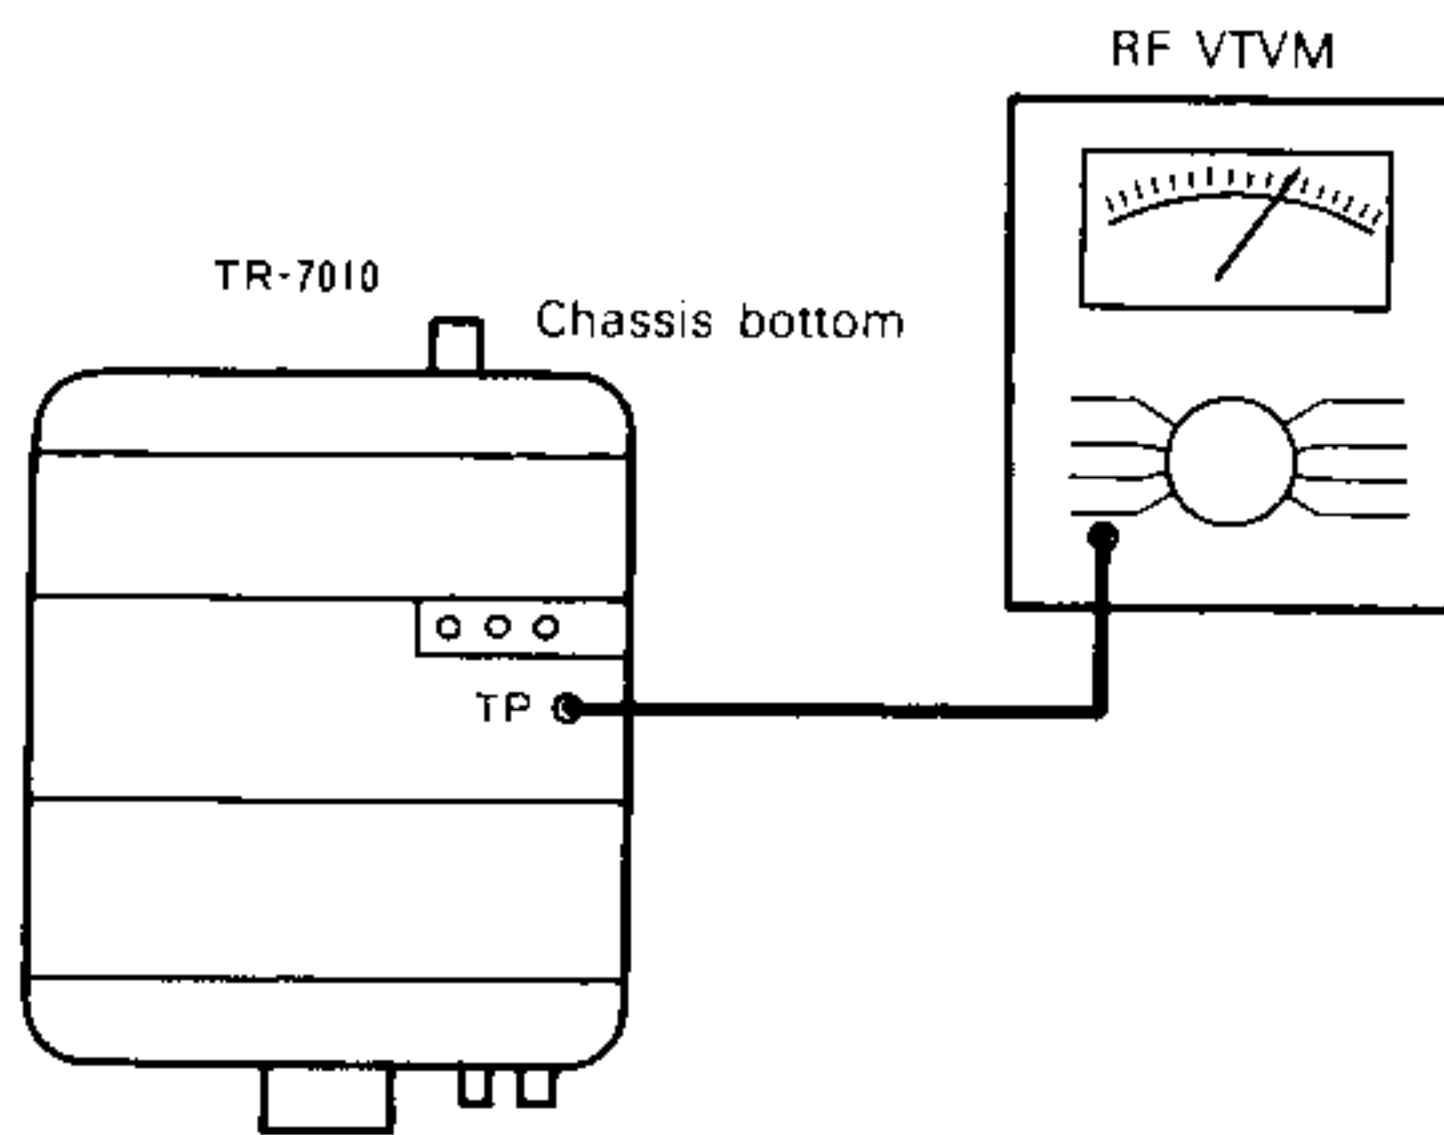
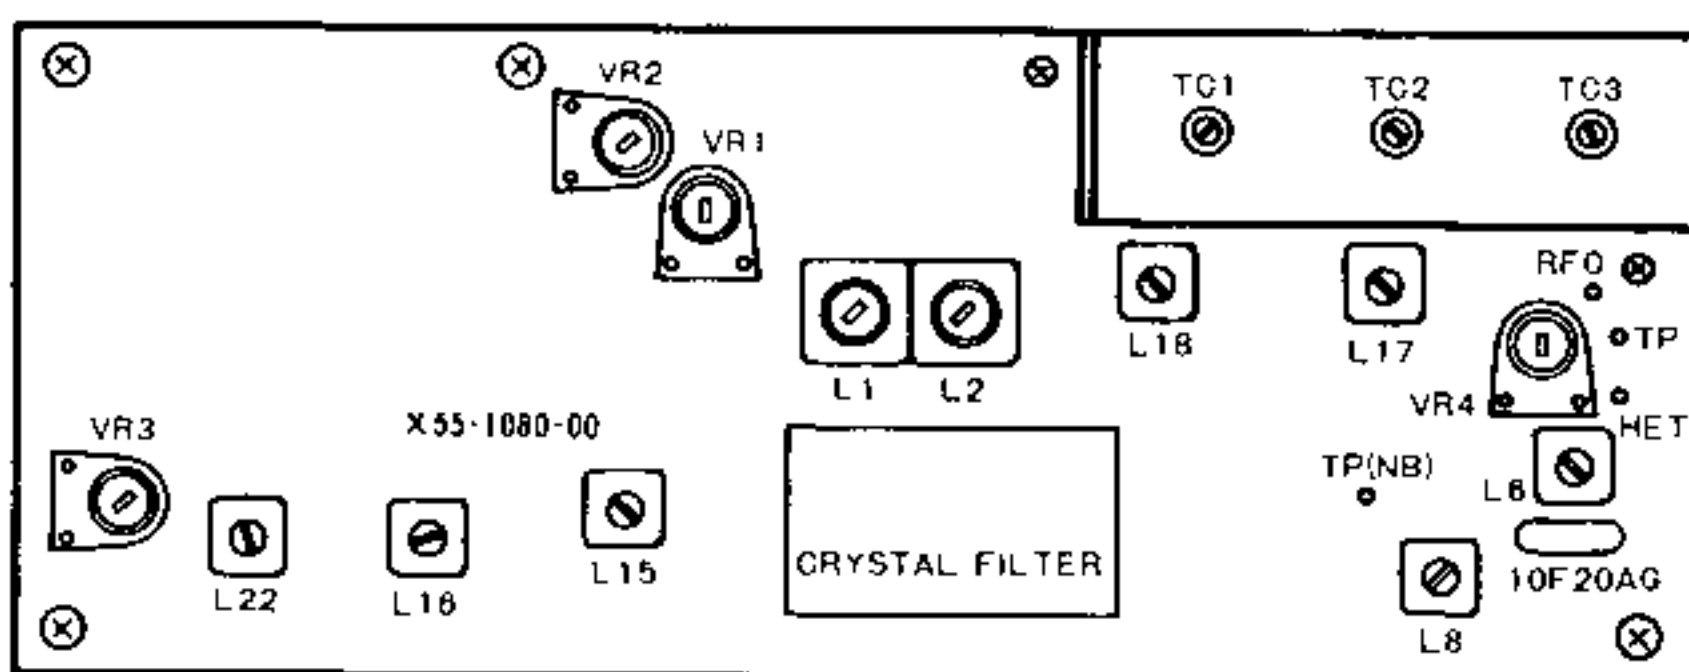

FIG. 14 RX, HET VOLTAGE SETTING
FIG. 15 RX UNIT
- (1) Disconnect all the measuring instruments. Set the channel indicator to "00" and the BAND switch to 144.2MHz.
- (2) Connect RF VTVM to the TP terminal on the RX unit (see Fig. 14 and Fig. 15).
- (3) Adjust VR4 on the RX unit until the voltage reaches 0.3V.
(1) Adjust VR2 on the RX unit (Fig. 15) until the S meter indicates the exact "0" position.
- (2) Using the input from SSG, tune in to about 144.200MHz and fine adjust VXO volume so that AF signal of about 1,000Hz is obtained on the oscilloscope.
- (3) Slowly decrease the input from SSG and obtain a maximum reading on AF VTVM by adjusting L1 → L2 → TC3 → L6 → L8 → L15 → L16 → L22 on the RX unit (Fig. 15). This adjustment should be repeated several times.
- (4) With the SSG input set to the minimum sensitivity (0dB), precisely adjust TC3 for maximum reading on AF VTVM.